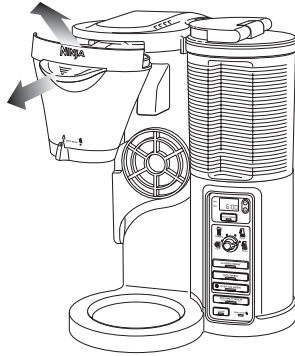
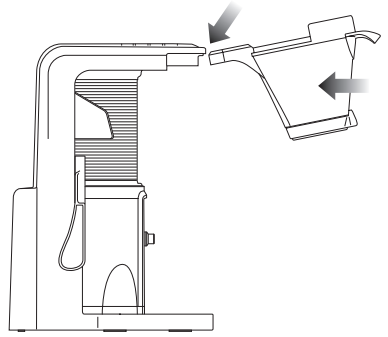

Fig. 5
Fig. 6
- 3 Slide brew basket out and angle up slightly to remove it from the brewer. (Fig. 5) To reinsert, align the brew basket with the rails and slide back into the brewer. (Fig. 6)